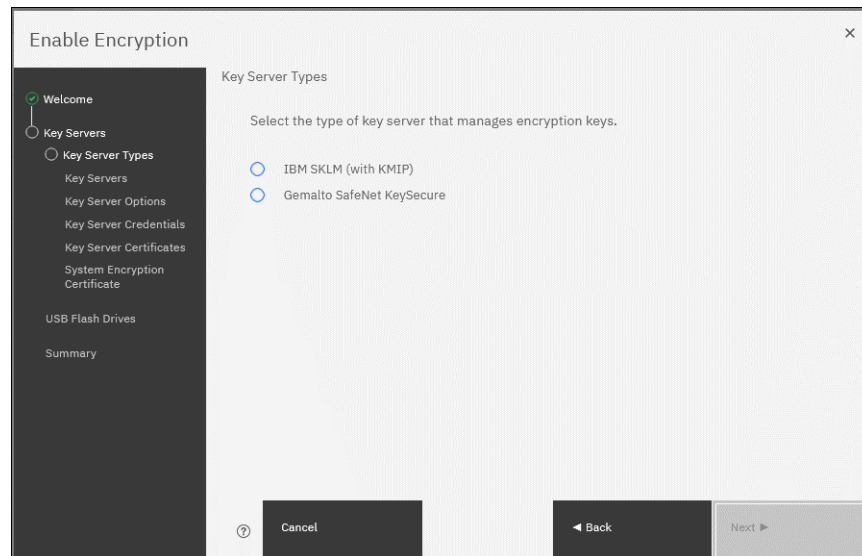

Figure 12-46 Selecting the key server type
3. The wizard moves to the Key Server Types window, as shown in Figure 12-46. Then, select the key server type that manages the encryption keys.